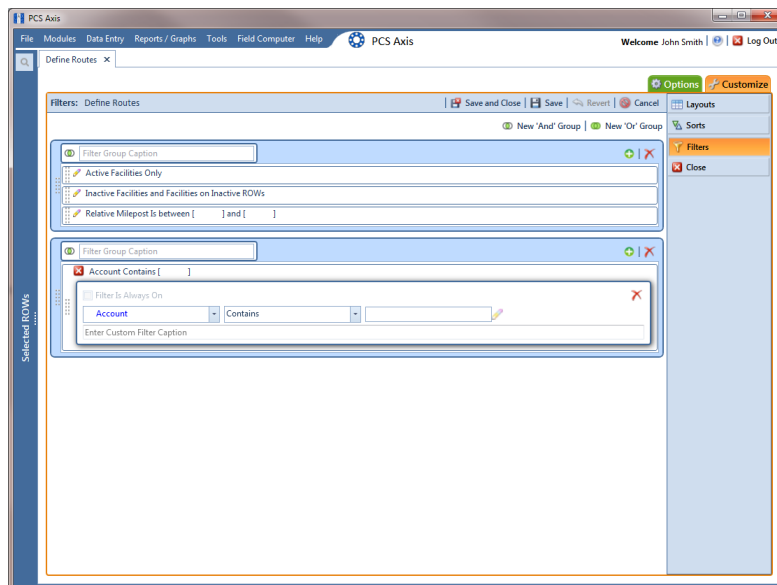

Figure 8-65. Filters
- 4 Click  **New 'And' Group** to open a filter properties group box (Figure 8-65).